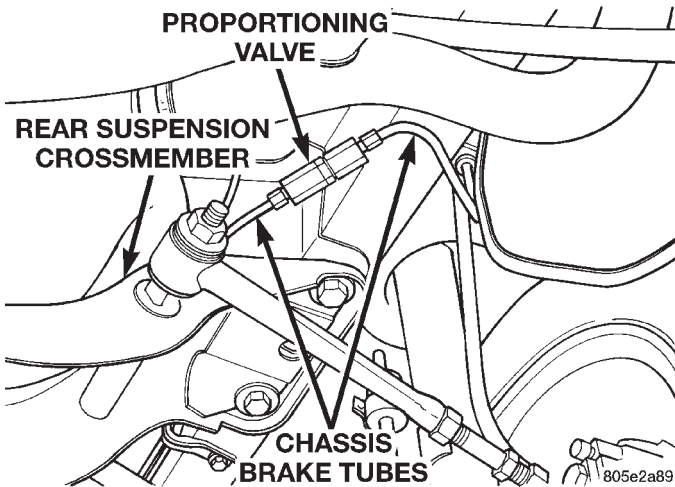

Fig. 91 Proportioning Valve
(1) Raise vehicle using a frame contact type host or correctly supported on jackstands. See Hoisting in the Lubrication and Maintenance group of this service manual for the required lifting procedure to be used for this vehicle.
(2) Remove the proportioning valve (Fig. 91) from the chassis brake tubes.